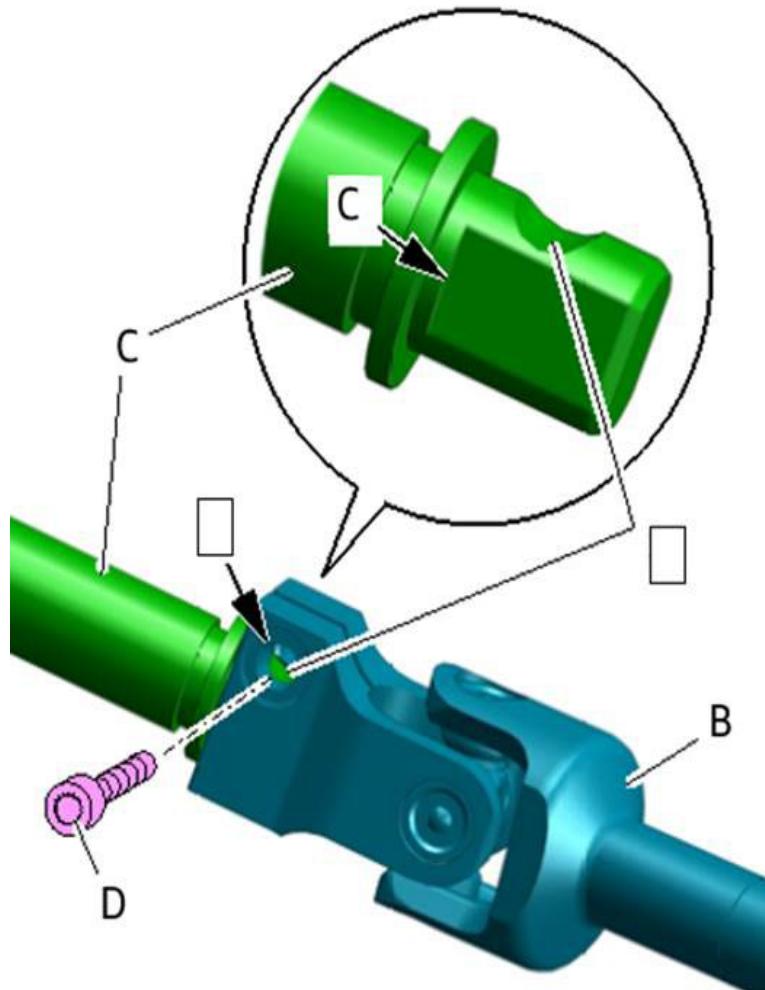

Figure 3. Steering column shaft and intermediate shaft connection.
3. Reinstall the steering intermediate shaft (B) to the steering column (C) and tighten with new bolts (D) (Figure 3).